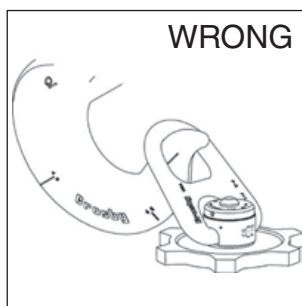

Figure 1
- Attach lifting device ensuring free fit to trench cover hoist ring bail (lifting ring) (Figure 1).